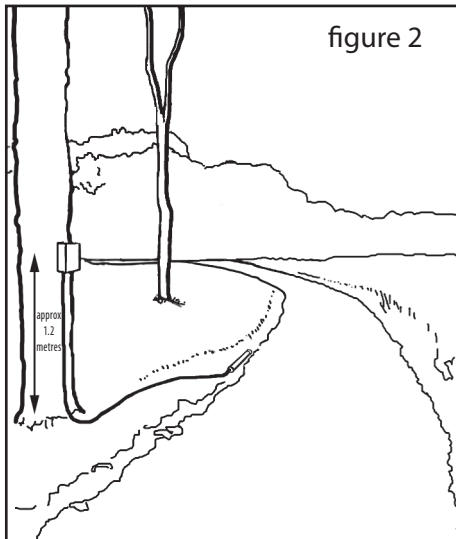

figure 2
1. The probe will detect vehicles up to about 3 metres away. If your driveway is one car wide, bury the probe parallel and right next to the drive (figure 2). If your driveway is two or more cars wide, bury the probe in the middle of the drive.